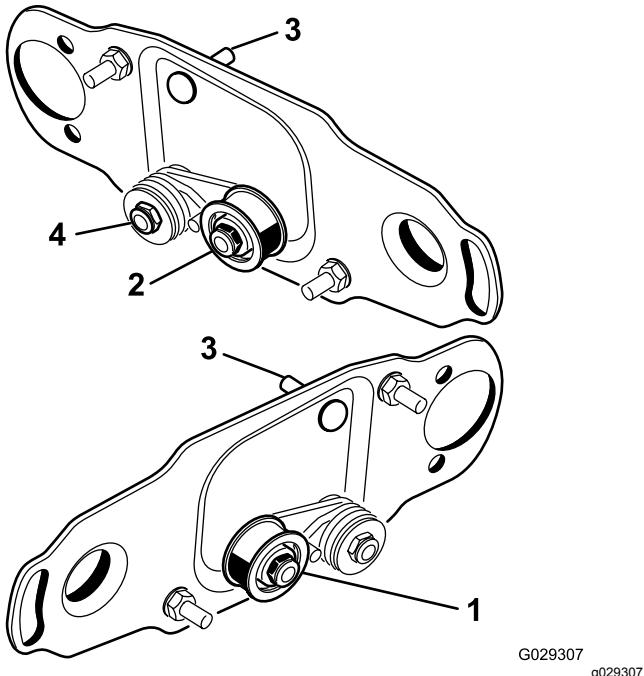

Figure 3
On the left front and left rear cutting units, reverse the idler pulley assembly to mount on the **right end** of the cutting unit (Figure 3), as follows:
1. Remove the idler pulley assembly from the left end of the cutting unit and mount it to the lower hole in the brush plate on the right end of the cutting unit (Figure 3).
2. Remove the carriage bolt and nut and relocate them to the upper hole previously occupied by the idler pulley assembly (Figure 3).